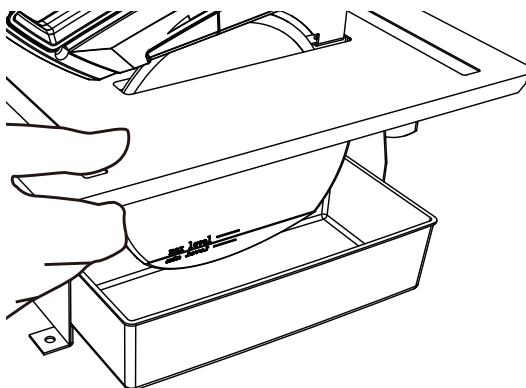

Figure 8
2. FITTING THE WATER TANK (SEE FIG. 8)